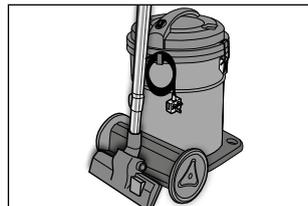

Fig. 13
After use, switch off the appliance by pressing the switch (B); unplug it from the mains and wind the cord either around the appliance or the special cord winder (FIG. 13).
Use the relevant hook for the floor brush when storing the appliance (FIG. 13).